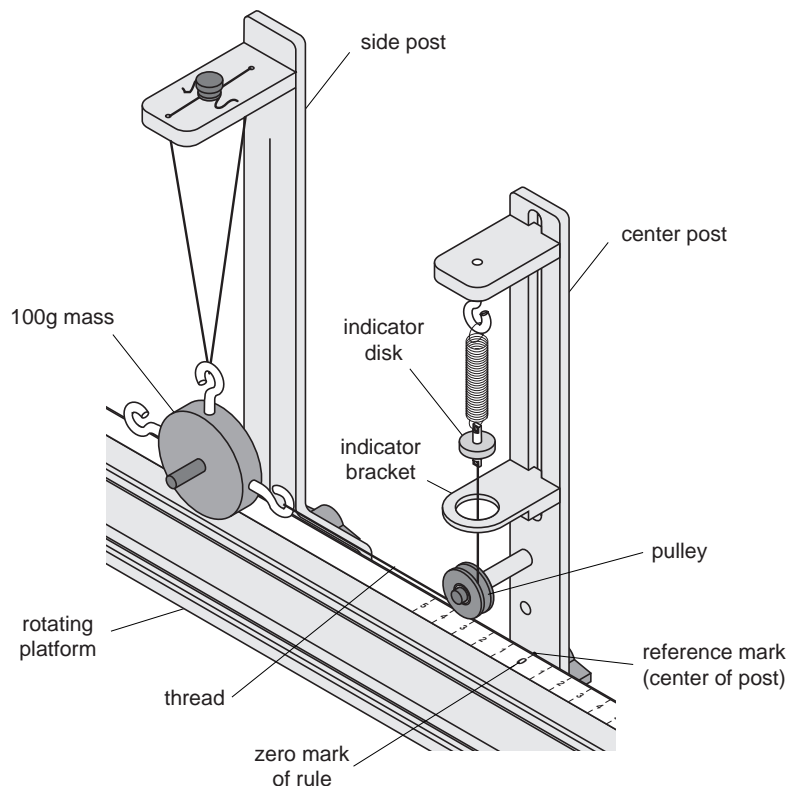

Figure 7: Threading the Centripetal Force Accessory
- ① Mount the center post in the T-slot on the side of the track that has the rule. Align the line on the center post with the zero mark on the rule and tighten the thumb screw to secure it in place. Then mount the side post on the same side of the track. See Figure 7.
- ② Hang the object from the string on the side post and adjust the height of the object so the string coming from the center post will be level.